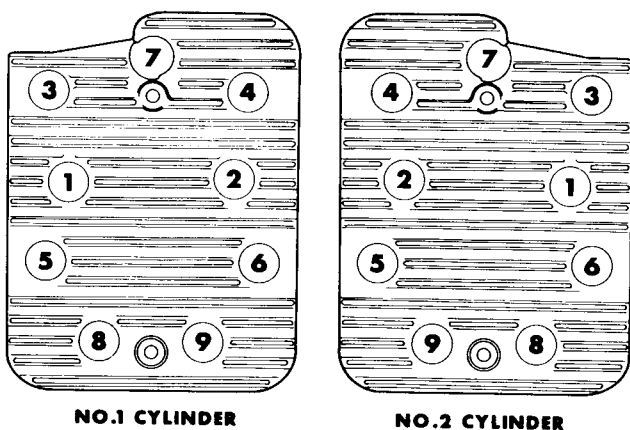

FIGURE 24. CYLINDER HEAD TORQUE SEQUENCE
4. Place heads in position and follow head torque tightening sequence shown in Figure 24. Start out tightening all nuts to 5 ft-lb, then 10 ft-lb, etc., until all nuts are torqued 14-16 ft-lb.